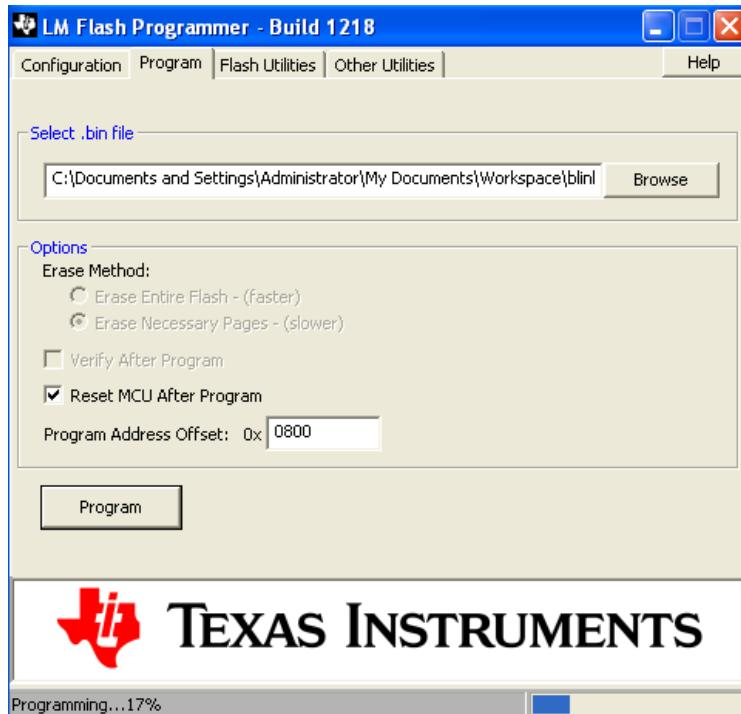

Figure 11.26 Programming the Target
- Clicking on Program starts transferring the application binary file to the Stellaris Guru board as shown in Figure 11.26.